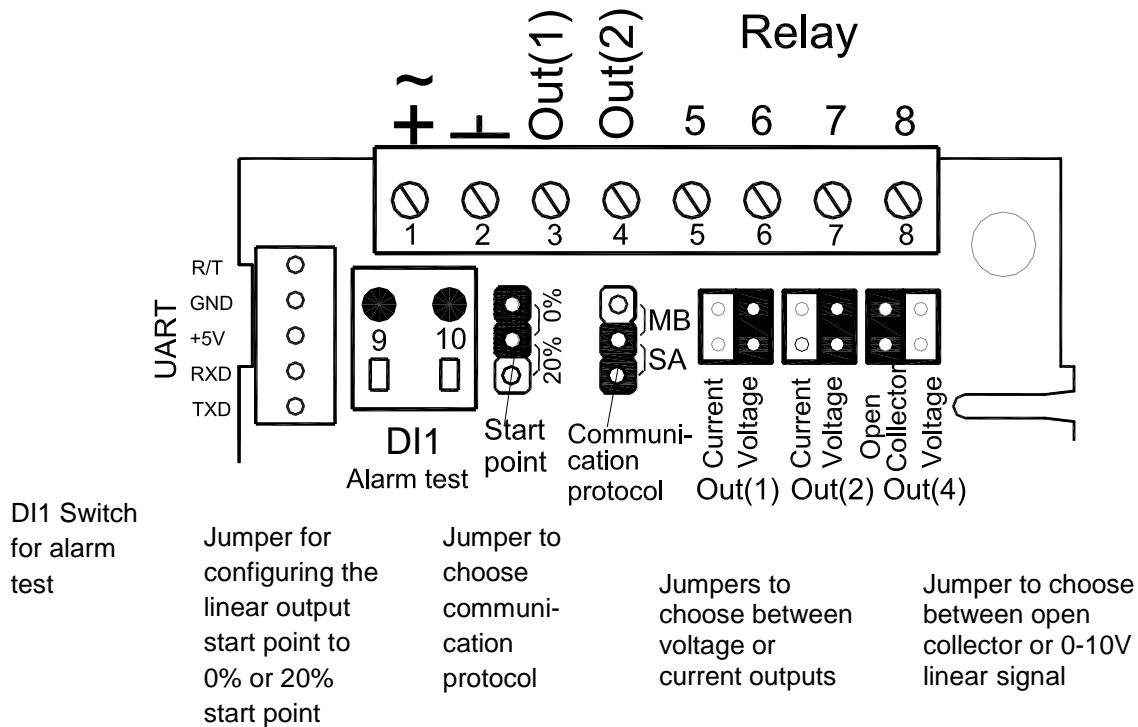

Fig. 3. Terminals and jumpers on CF8-W-Disp-CO. The darker positions are default settings.
1. **Dismount the wall plate.** The sensor is delivered with the wall plate mounted. The wall plate has to be removed before the sensor is mounted onto the wall. Unscrew the screw on the side of the box. See figure 3.
| Numbers in figure 3 | Label or marking | Function   |